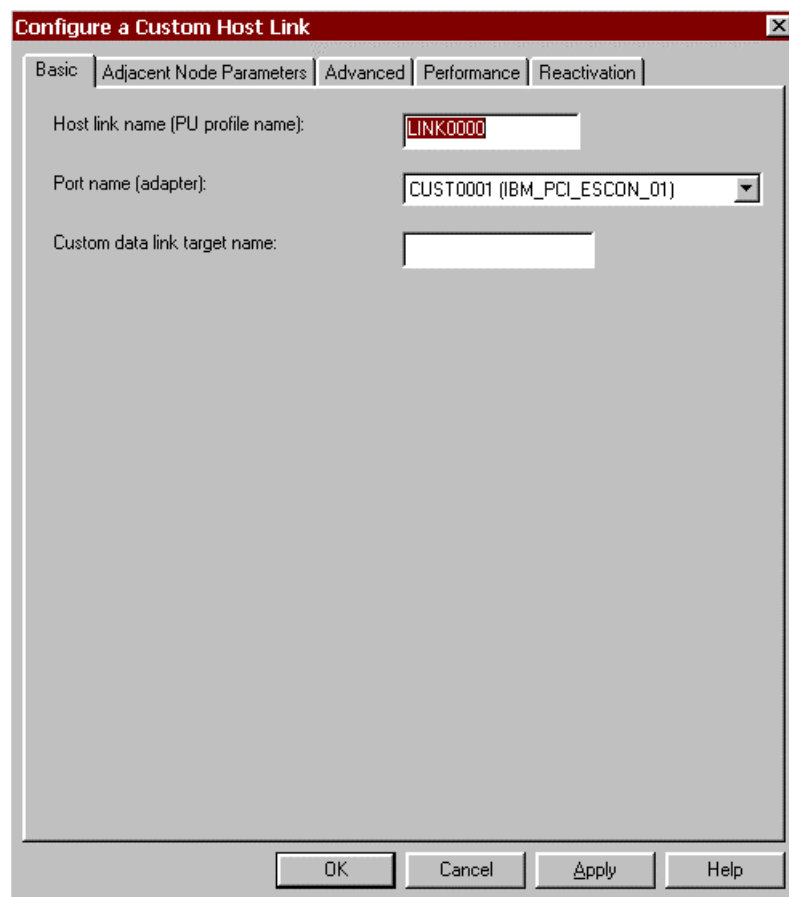

Figure 11-14. Configure a Custom Host Link - Basic
3. The **Configure a Custom Host Link** screen will display (Figure 11-14). Note that the **Reactivation** tab is new to version 4 of the configuration utility.